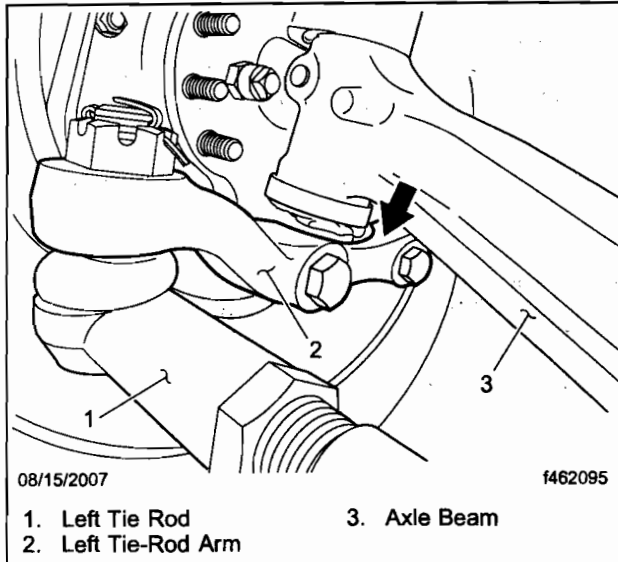

Fig. 1, Part Number Location, Left Tie-Rod Arm
- 4.1 Turn the steering wheel one turn to the right. This will expose the top surface of the left tie-rod arm, where the raised part number is. See Fig. 1.